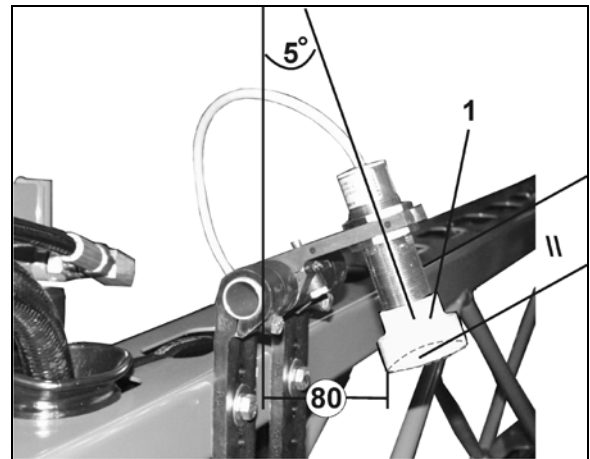

Fig. 102
Ultrasound sensors (Fig. 102/1) detect the distance to the ground or the crop. If the height deviates from the desired measurement on one side, the distance control regulates the tilt adjustment in order to adjust the height. If the terrain rises on both sides, the height adjustment raises the entire boom.
- see Fig. 102